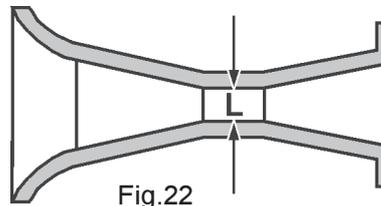

Fig.22
For PARSHALL INCH it's necessary to select the (L) dimension (width) of the flume (see fig.22)